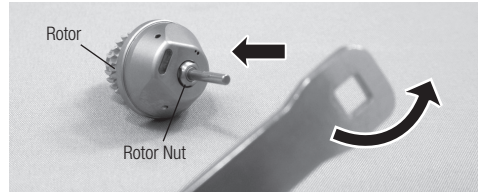

Fig. 18
- 2) Hold the rotor with two fingers. (Fig.18)